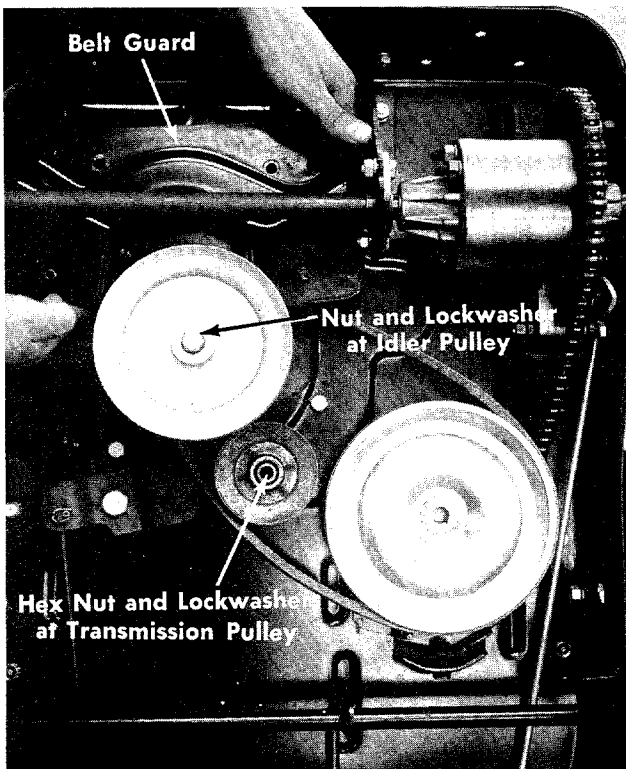

FIGURE 19. ENGINE BELT GUARD REMOVAL
- Step 4. Remove the belt guard at the engine pulley. See figure 19.
- Step 5. Remove the nut and lockwashers at the idler pulley. See figure 19.